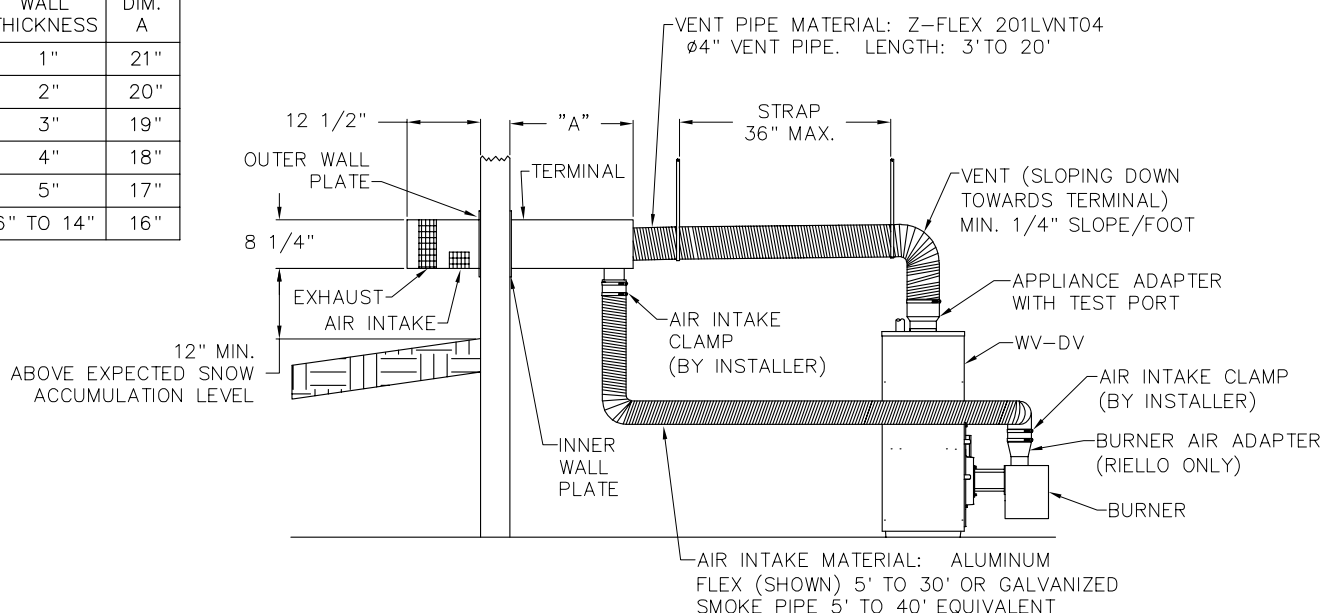

Figure 4.1: Venting
1. Prepare sketches and notes of the layout of the installation. Include boiler location, venting system, existing piping and wiring. Show existing equipment that may interfere with installation of new equipment. See Section 4-A. "Vent System Installation," Page 7, and Figure 4.1.
- Vent length must be between 3' and 20' long. See paragraph 4.A.3 and Figure 4.1 for air intake requirements.
- Vent terminal extends 12" beyond outside wall surface and at least 16" beyond inside wall surface. See Figure 4.1.
3. For air intake, use 4" diameter galvanized smoke pipe or 4" diameter flexible corrugated aluminum pipe. Maximum equivalent length of galvanized smoke pipe is 40'. Allow 5 equivalent feet for each 90° elbow used. (Example: No more than 20' straight smoke pipe can be used with four 90° elbows.) To connect air intake to Riello BF5 burner, use burner air adapter from trim bag to connect 4" air intake to 3" opening on top of burner. See Figure 4.1.